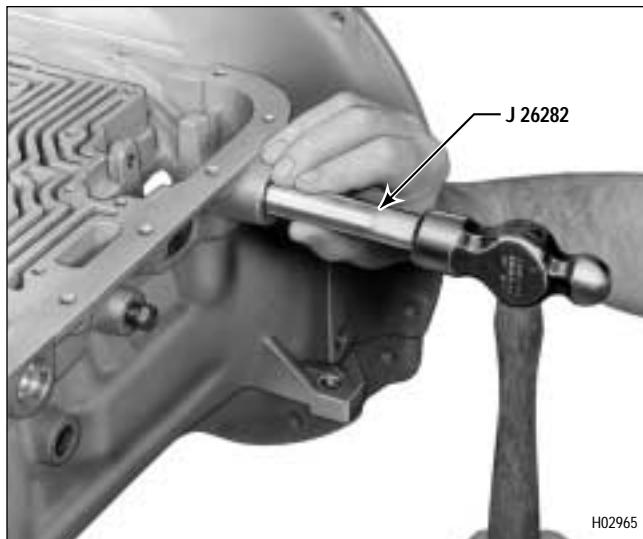

Figure 6-58. Installing Selector Shaft Oil Seal
(1) If snapring 9 (Foldout 12,A) was removed, install a new snapring. Be sure to inspect the bore into which bearing 4 (Foldout 12,B) fits for damage.
(2) Coat the ID of lip-type oil seal 61 (Foldout 12,B) with oil-soluble grease. Install the seal, lip first, into the transmission case (Figure 6-58), using special installer J 26282.